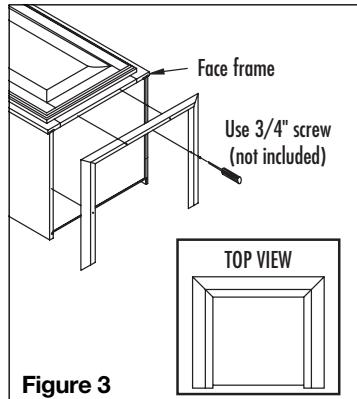

Figure 3
- If using wood screws, pre-drill a pilot hole through the crown into the face frame with a 1/8 in. drill bit then secure the crown to cabinet (Figure 3).